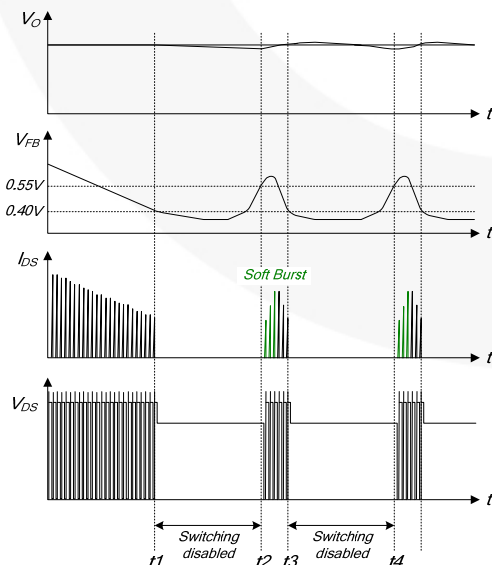

**Figure 21. Abnormal Over-Current Protection**
**4.2 Abnormal Over-Current Protection (AOCP):** When the secondary rectifier diodes or the transformer pins are shorted, a steep current with extremely high  $di/dt$  can flow through the SenseFET during the minimum turn-on time. Even though the FSL126MRT has overload protection, it is not enough to protect in that abnormal case; due to the severe current stress imposed on the SenseFET until OLP is triggered. The internal AOCP circuit is shown in Figure 21. When the gate turn-on signal is applied to the power SenseFET, the AOCP block is enabled and monitors the current through the sensing resistor. The voltage across the resistor is compared with a preset AOCP level. If the sensing resistor voltage is greater than the AOCP level, the set signal is applied to the S-R latch, resulting in the shutdown of the SMPS.